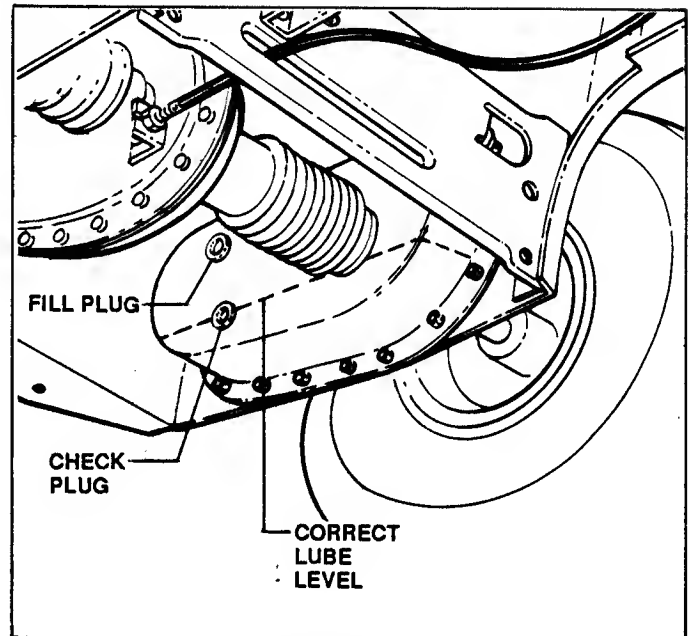

FIGURE 16
- CHECK GREASE LEVEL by removing CHECK PLUG on inside of unit shown in Figure 16 to check level of oil. Add **SNAPPER "0"** grease as needed thru upper fill hole to bring the level up to the lower edge of the CHECK PLUG hole. Reinstall **NEW** plugs after servicing.
- CHAIN CASE: Remove plug and check. If dry, add one ounce of **SNAPPER "0"** grease—do not overfill. Total capacity must not exceed 2 ounces. See Figure 16.